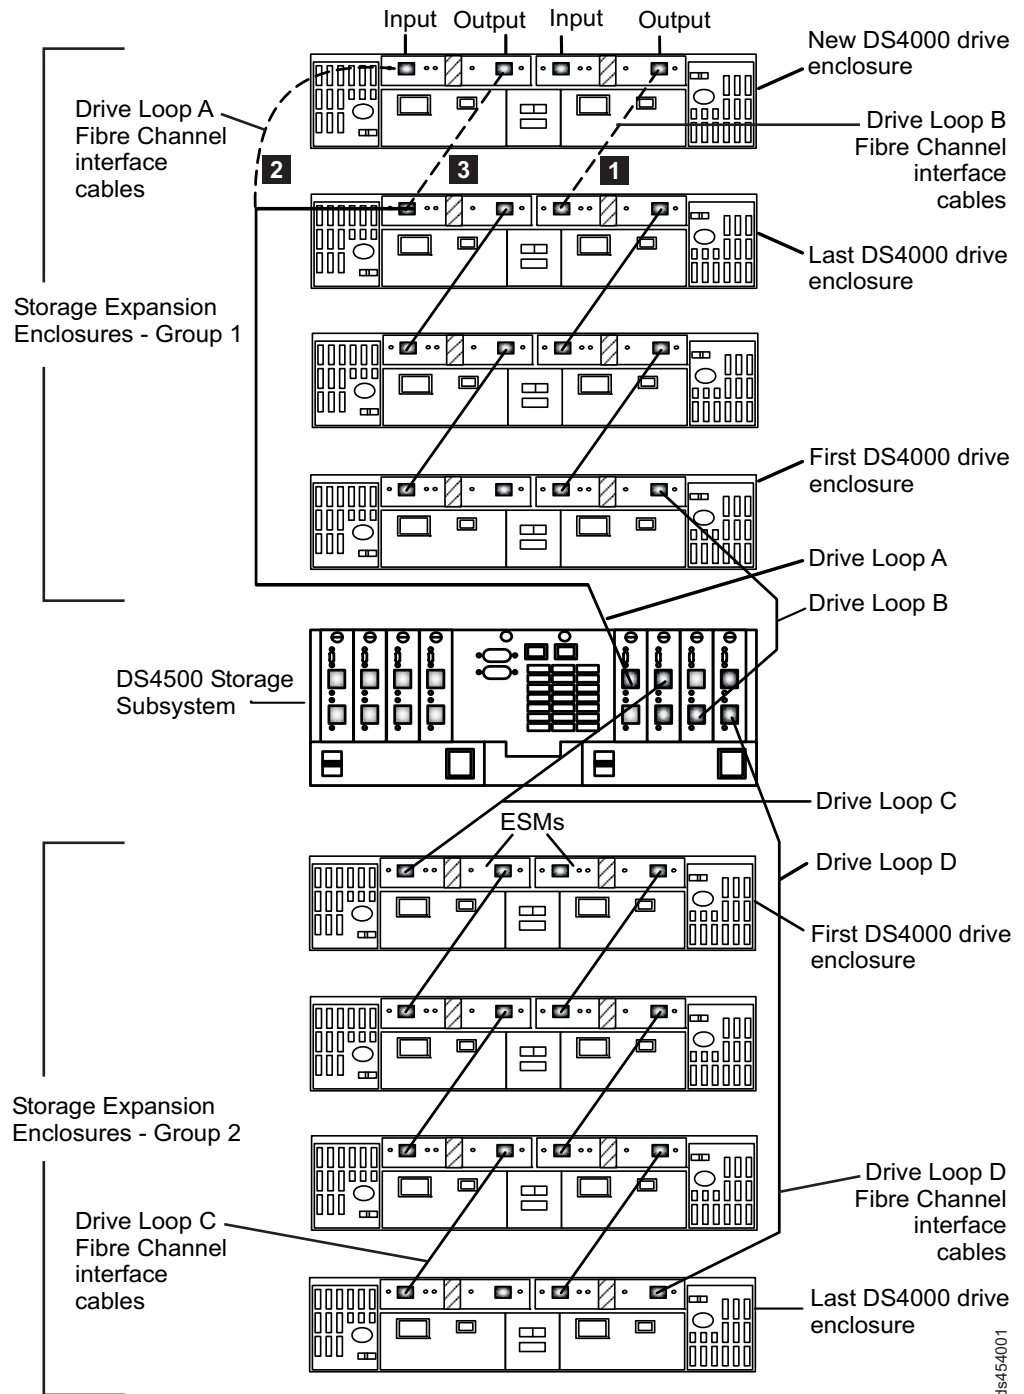

Figure 42. Cabling the EXP100 to two redundant loops
Figure 42 on page 69 shows an example of a DS4500 configured with four drive loops. Drive loops A and B form one redundant Fibre Channel loop. Drive loops C and D form the second redundant Fibre Channel loop.
The numbers corresponding to the dashed lines in Figure 42 show how to add a new EXP100 to an existing DS4500 configuration with EXP100s attached, as described in the following steps.
To add the new EXP100 shown in Figure 42, perform the following steps:
2. Make the Fibre Channel connection marked (**1**) in Figure 42 (drive loop B).
4. Make the Fibre Channel connection marked (**2**) in Figure 42 on page 69.
5. Make the Fibre Channel connection marked (**3**) in Figure 42 on page 69 (drive loop A).